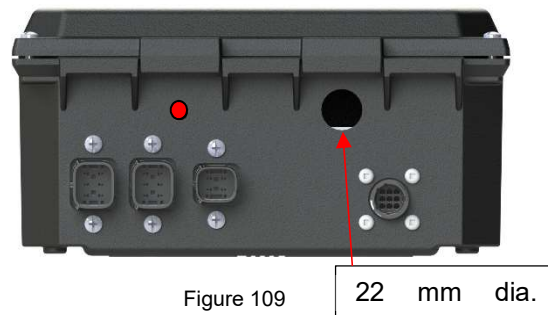

Figure 109
- ♦ A certified electrician must install a conduit connector that will be type 3 enclosure rated (*not included*). The hole diameter on the box is 22 mm (Figure 109). Refer to the *Wiring Diagram* in the *Appendix* section